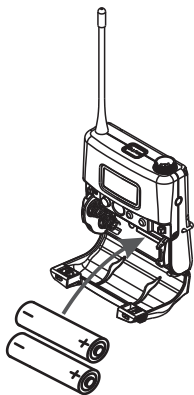

Fig. 24
2. Insert two AA sized batteries according to correct polarity, Fig. 24.